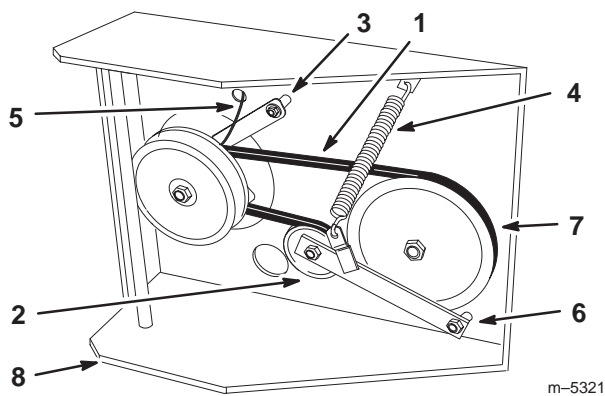

Figure 58
6. Disconnect clutch retainer from the engine deck (Fig. 58).
7. Unhook tension spring from side of frame (Fig. 58).
10. Torque pivot bolt to 35-40 ft-lb (47-54 N•m). Install tension spring between idler arm and frame bracket (Fig. 58).
11. Install clutch retainer to the engine deck (Fig. 58).